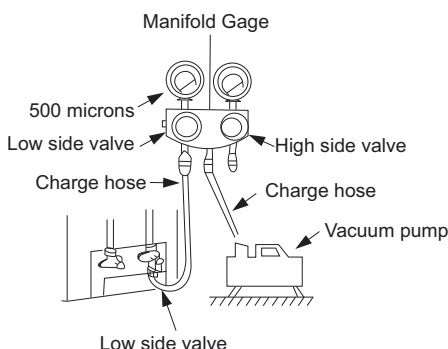

Fig. 20 – Manifold
3. Fully open the low side of manifold gage. (See Fig. 20)